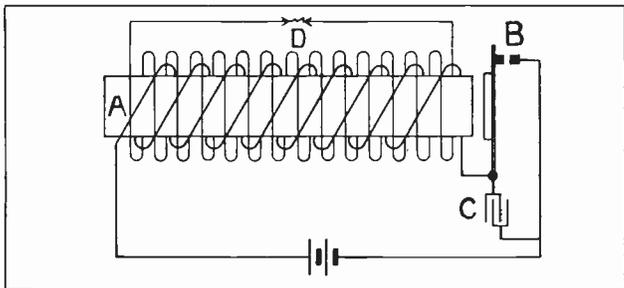

Fig. 10. Diagram of a spark coil, showing primary and secondary coils and make and break contacts.
In Fig. 10, is shown the construction of a simple type of spark coil. The iron core (A) is made of soft iron strips called **Laminations**, or sometimes of iron wires bundled tightly. The primary coil which is a few turns of rather heavy wire, is wound over the insulated core. Then after a layer of good insulation is placed over the primary, the secondary coil is wound over it all. This secondary usually consists of several thousand turns of very fine wire, and may have a pressure of several thousand volts induced in it.